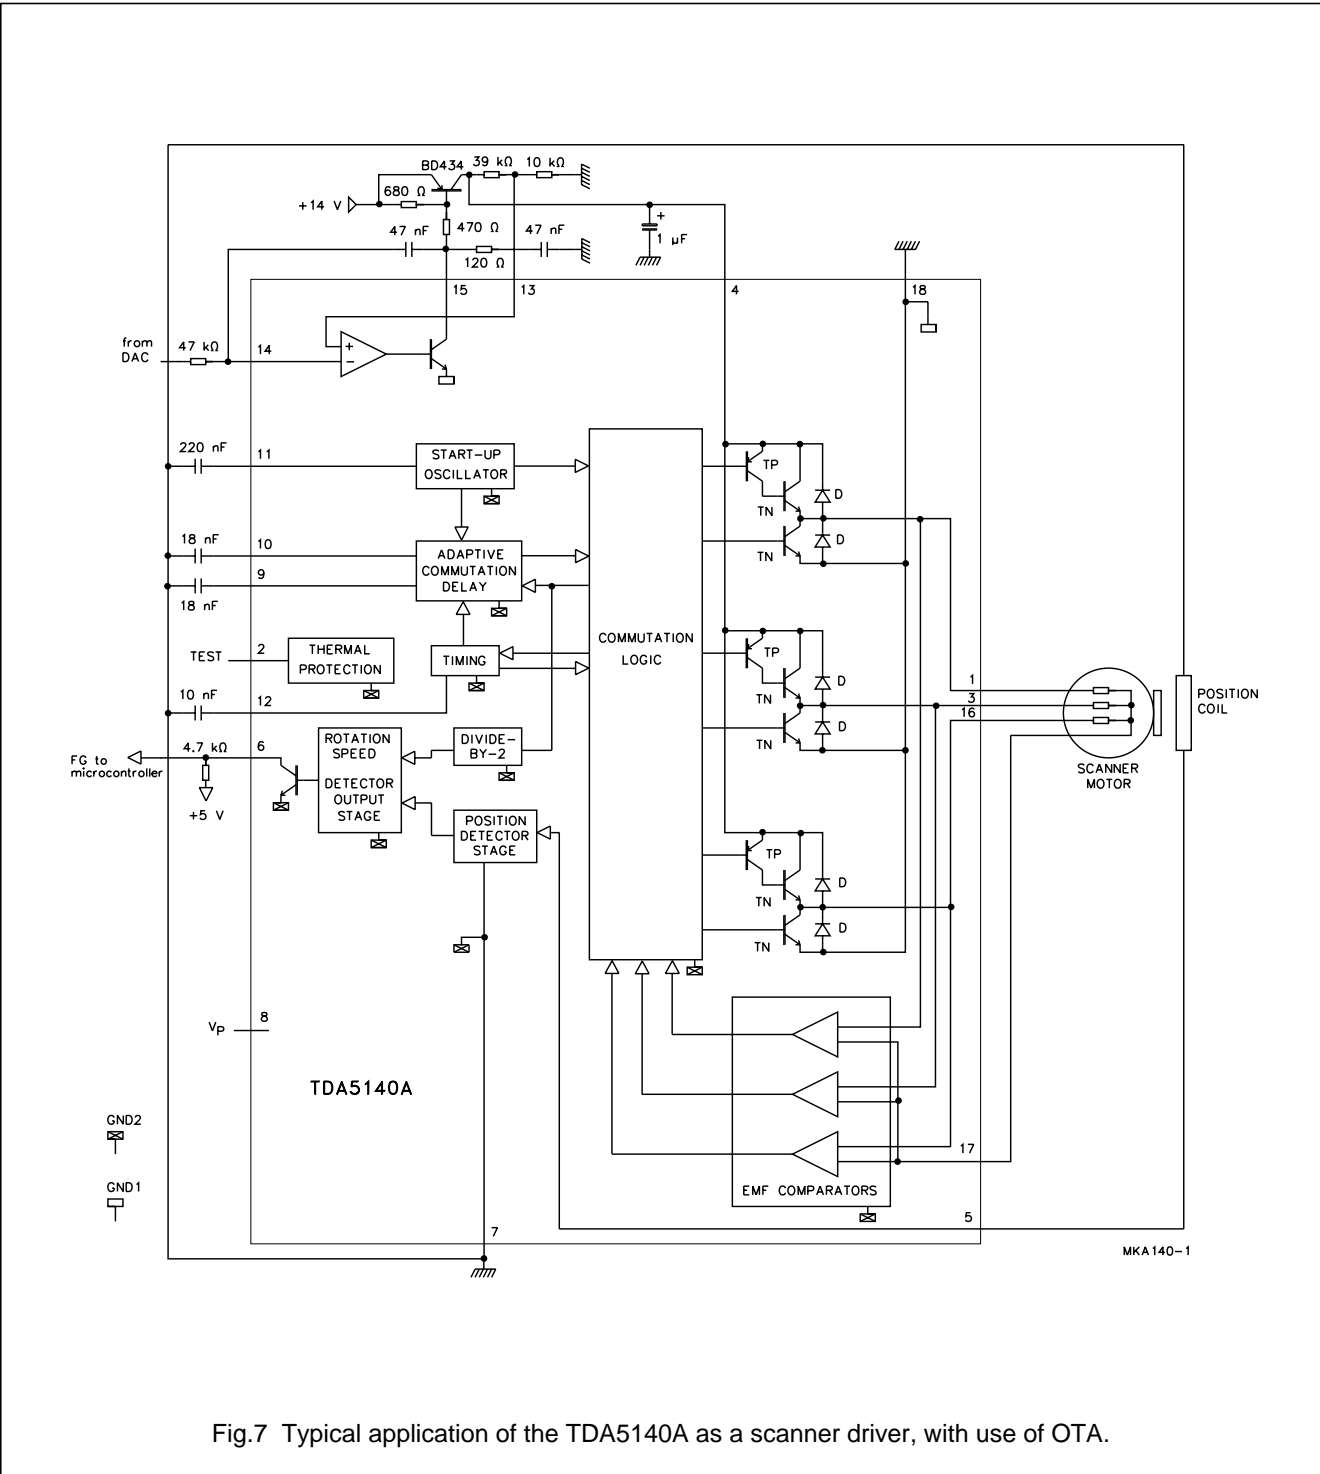

Fig.7 Typical application of the TDA5140A as a scanner driver, with use of OTA.
**Introduction (see Fig.7)**
For the control an external transistor is required. The OTA can supply the base current for this transistor and act as a control amplifier (see Fig.7).